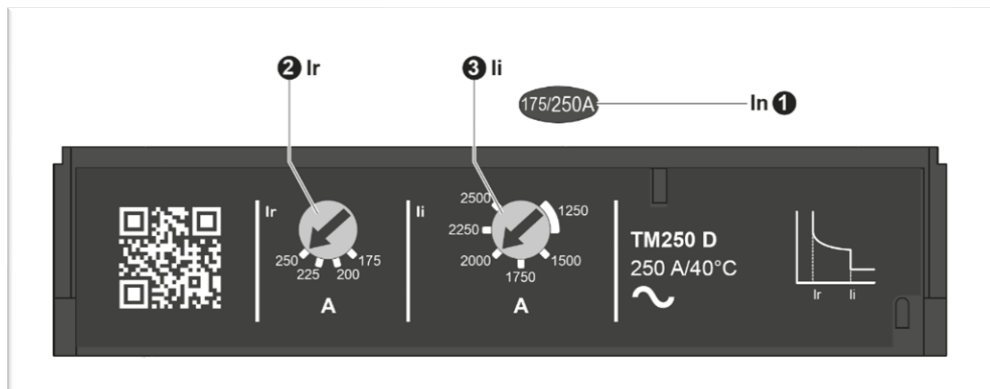

Figure 4. Schneider TM-D Trip Unit – Current Settings
- 6.2 For Thermal-Magnetic Trip Units (model numbers TM-D) the adjustments for current settings are shown in Figure 4.